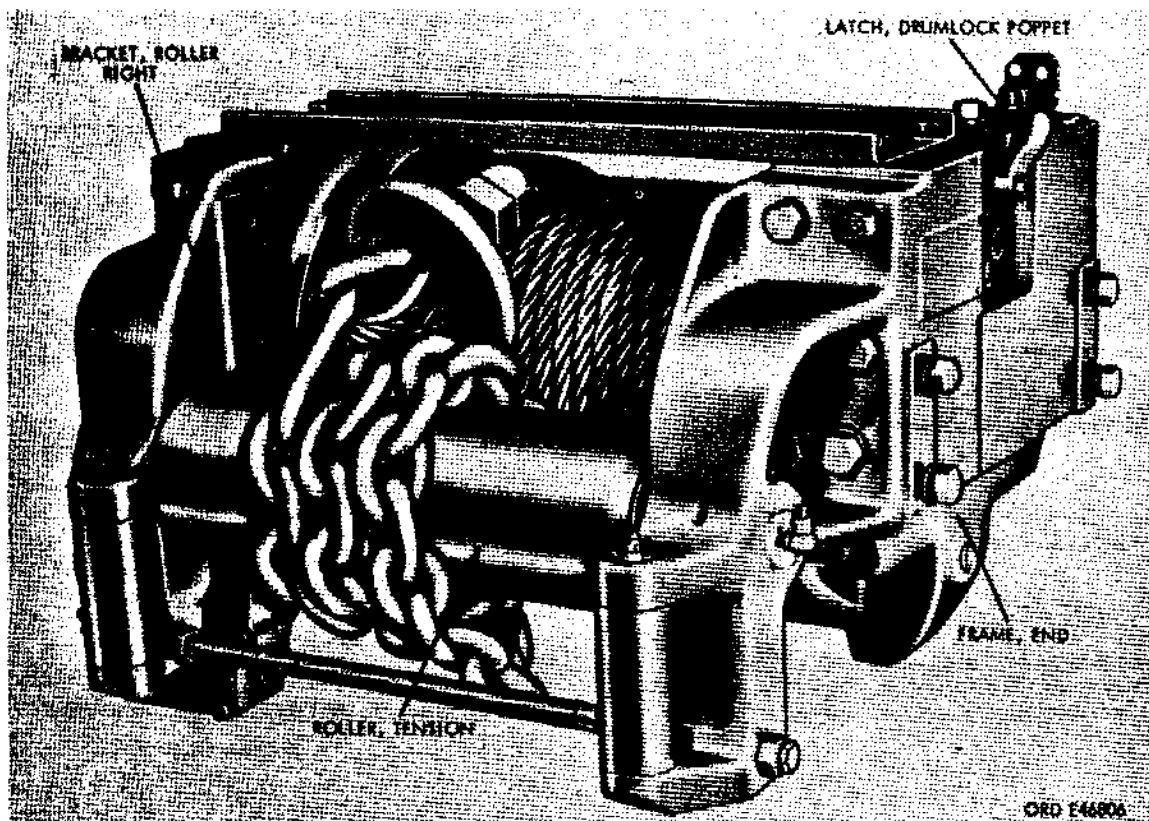

Figure 36. Front winch - left front view
35. Description and Operation (Figs. 36 and 37)